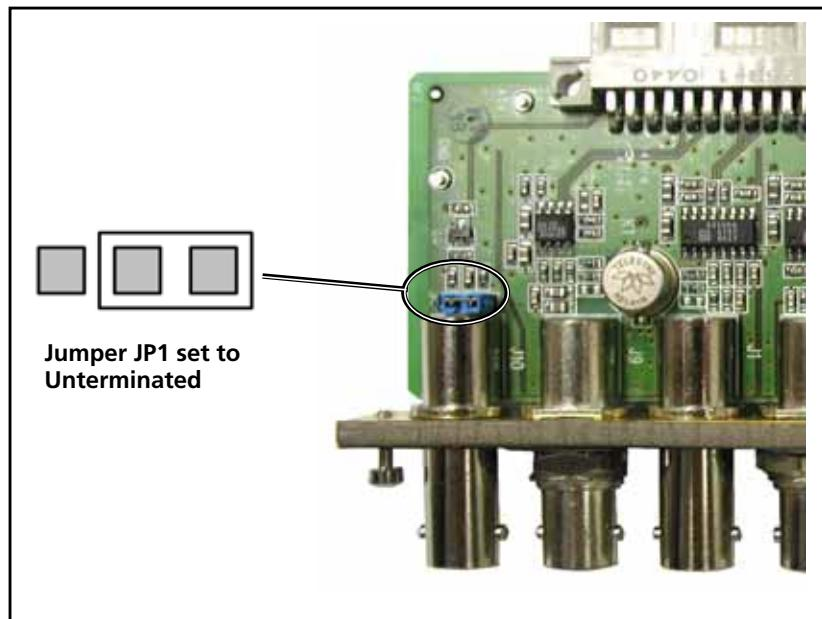

Figure 4-2 Jumper JP1 on the NSM Back Module
- b Locate jumper **JP1** on the NEO NSM back module (see Figure 4-2), and then set the NEO NSM back module to **Unterminated** reference by setting **JP1** as shown.